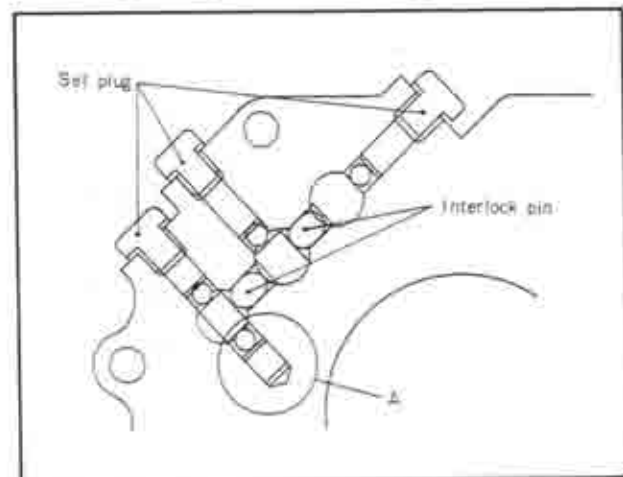

Fig. 7-23 Shift locking balls and interlock pins
13. Insert the locking ball and spring into the (A) of the bearing housing as shown in Fig. 7-23.